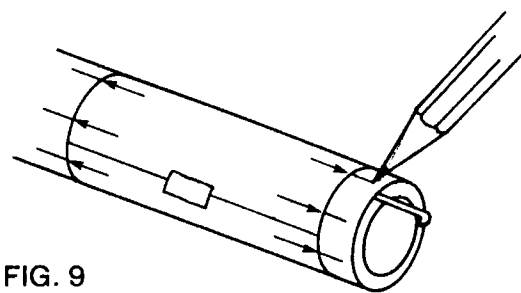

FIG. 9
- D Cut out the Placement Pattern from the pattern sheet. Wrap the Pattern around the rear end (the engine mount end) of the main body tube and tape the ends together. Place a mark on the tube adjacent to each arrow on the pattern. (Fig. 9)